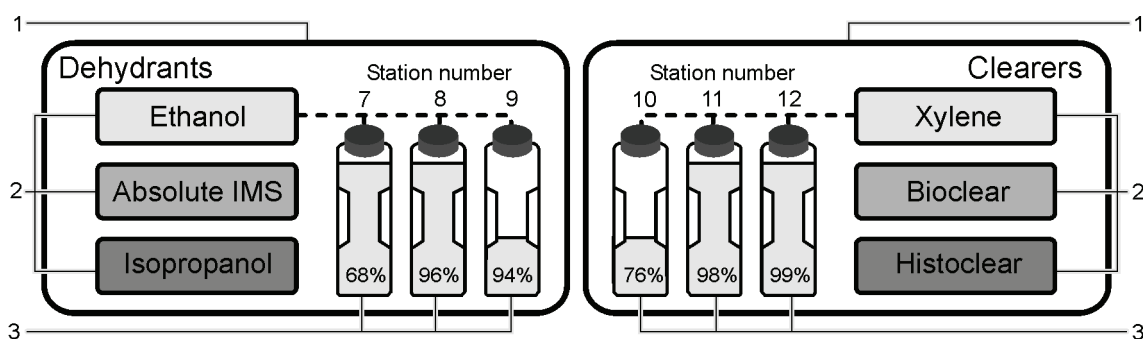

Figure 42: Reagent groups (1), types (2) and stations (3)
The Peloris tissue processor manages reagents by groups (1), types (2) and stations (3) as depicted in Figure 42 and described in the following text.